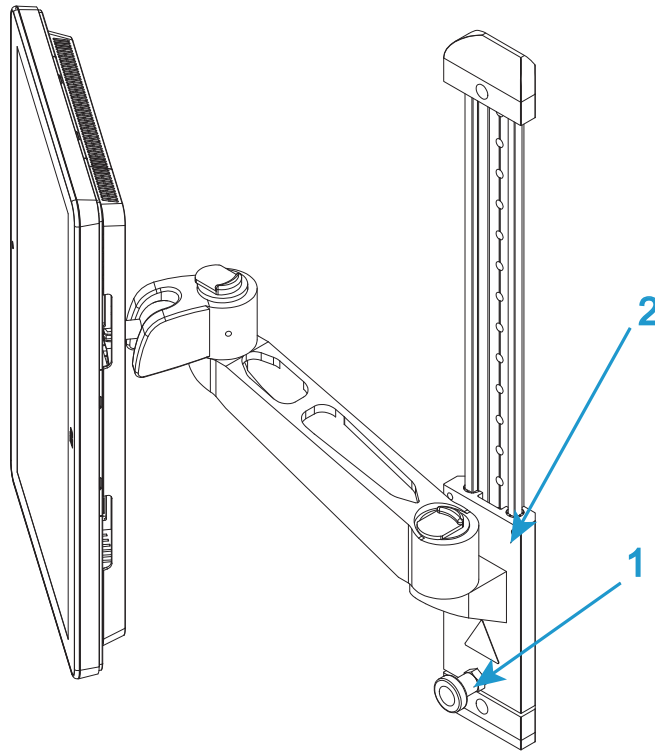

Figure 11. Height adjustment
1. You can adjust the height of the Bluehill® Operator Dashboard for the comfort of different operators. Loosen the lock (1 in Figure 11 on page 49) and slide the arm mounting (2 in Figure 11 on page 49) to the desired height. Re-tighten the lock.